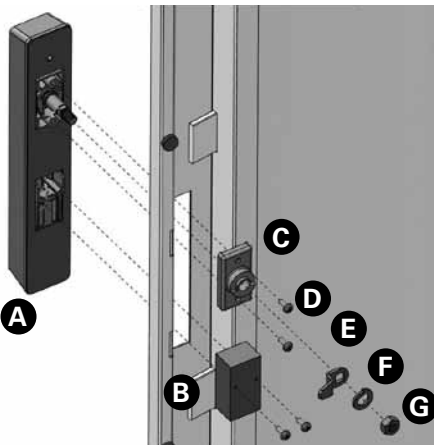

Figure 1
3. Assemble lock pawl as orientated in figure 1, E above.